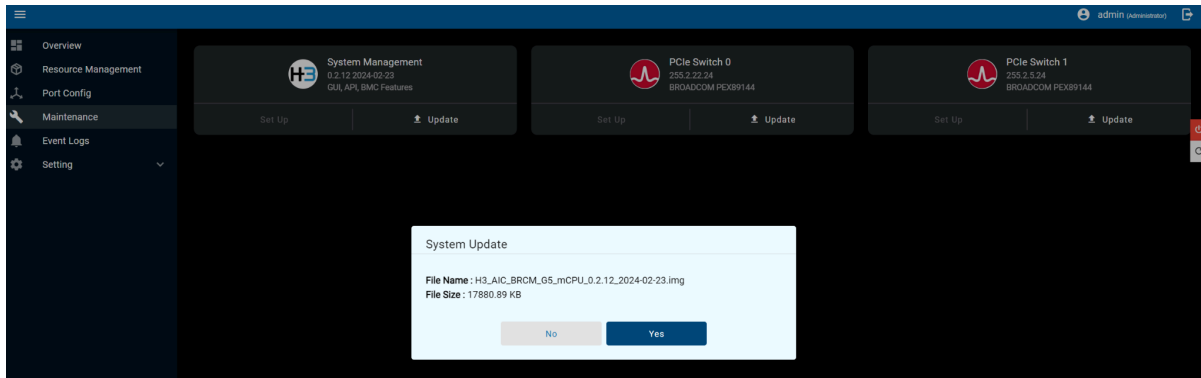

Figure 83. Confirmation Message for Firmware Update
- o Click Yes to proceed with the update (refer to Figure 83).